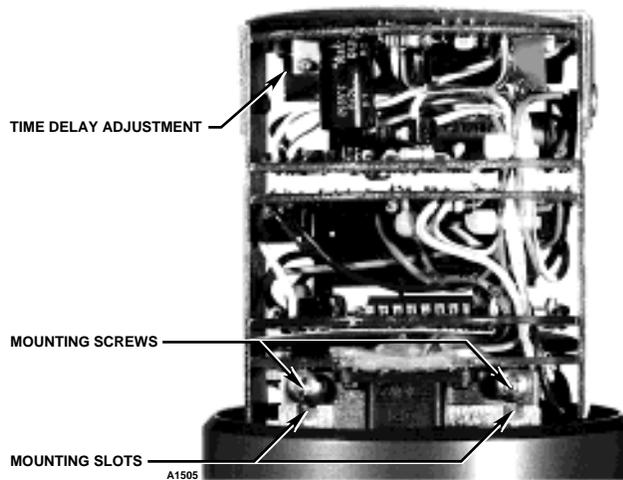

Figure 19—Controller Module Showing Time Delay Adjust
5. Adjust the time delay potentiometer (refer to Figure 19 for location) using a screwdriver. To reduce the time delay, turn the potentiometer counterclockwise (ccw). To increase the time delay, turn potentiometer clockwise (cw). Small adjustments make significant changes in the time setting (approximately 1 to 2 seconds per 1/4 turn).